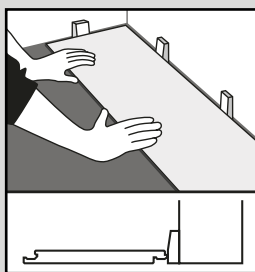

Fig. 1
1. Start with a full board off the wall and measure how many full boards widths there are. If this means, there will be a very narrow plank at the end of the wall cut the first row of boards accordingly. Install the plank with the tongue side/cut edge facing the wall, fit 3/16" (5 mm) spacers between the plank and wall (Fig. 1).